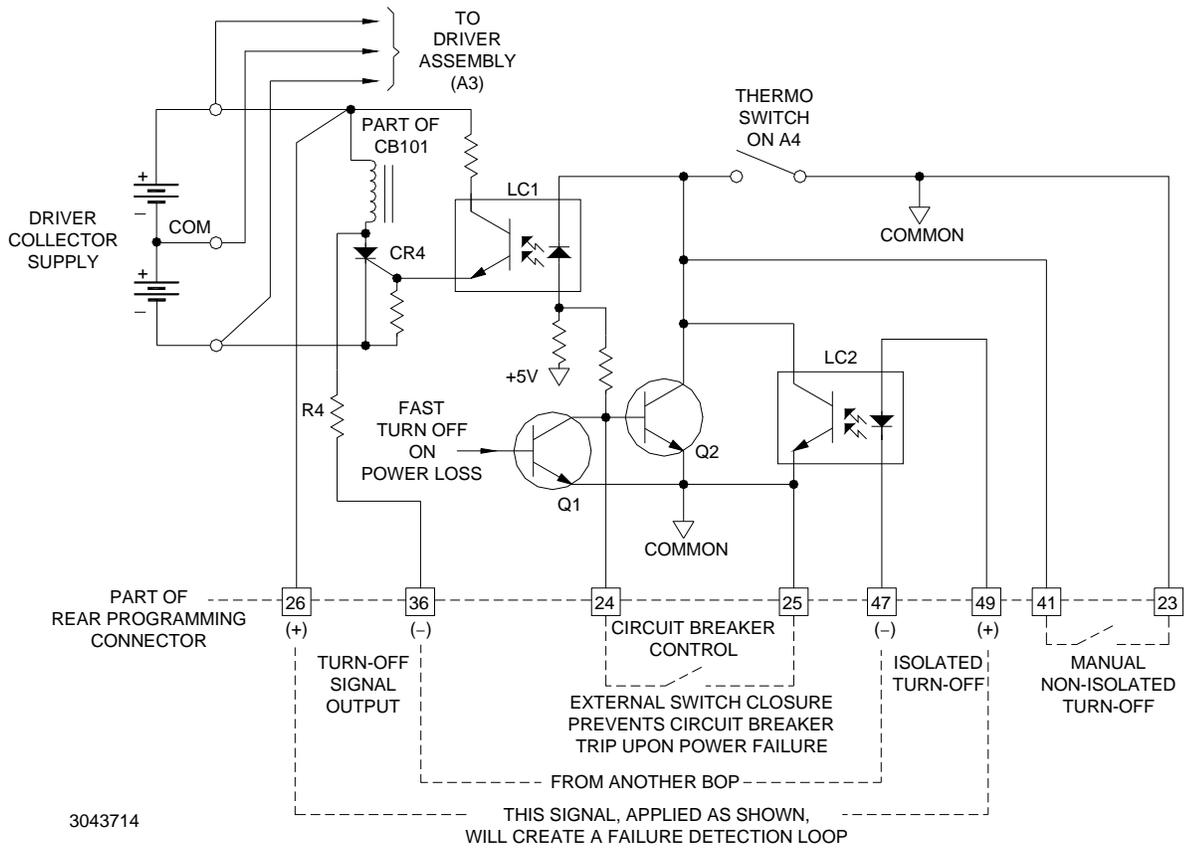

FIGURE 3-24. CIRCUIT BREAKER CONTROL CIRCUIT, SIMPLIFIED DIAGRAM.
Each BOP channel is protected by the dual-coil circuit breaker/ON-OFF switch (CB101) as shown in Figure 3-24. The current sensing coil of CB101 is connected in series with the primary winding of T201, thus detecting overcurrent reflected into the primary circuit and subsequently tripping the circuit breaker. The voltage sensing coil of CB101 is connected in series with an SCR (CR4) across the driver collector supply. If the SCR is triggered on, the voltage sensing coil is energized and trips the circuit breaker. The SCR (CR4) can be triggered in several ways:
- A manual, non-isolated turn-off is provided which, when implemented with an external switch contact as shown in Figure 3-24, will energize the diode in the first optocoupler (LC1), thus providing the SCR turn-on.